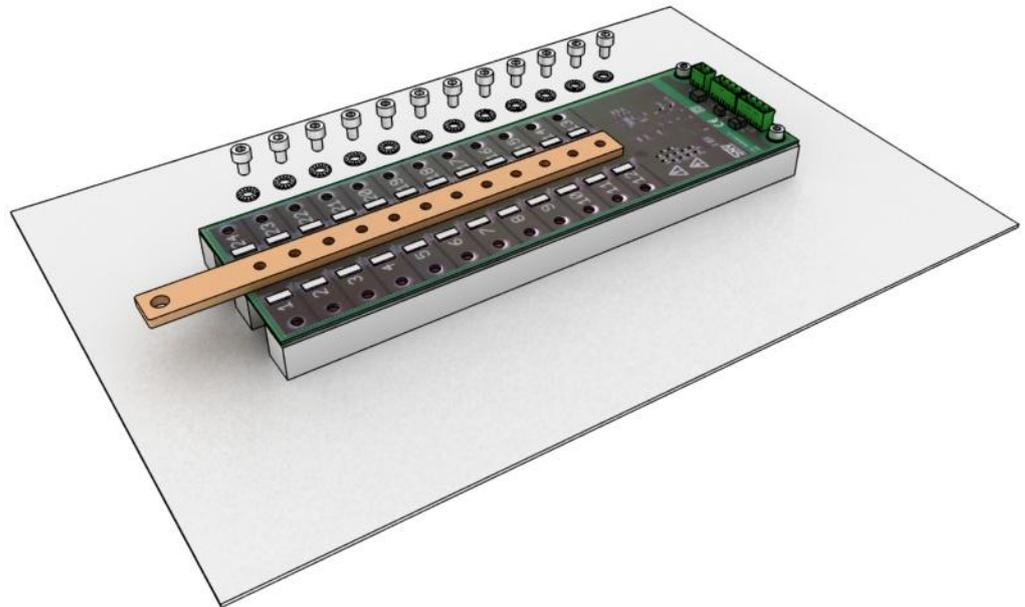

Figure 8: Mounting the common bar on the CMC SNV018EC
3. Mount the common bar SNV018.24.0020 on the CMC SNV018EC using M5x10 (DIN912 or DIN933) bolt and star washers (DIN6798A) as shown in figure 8.